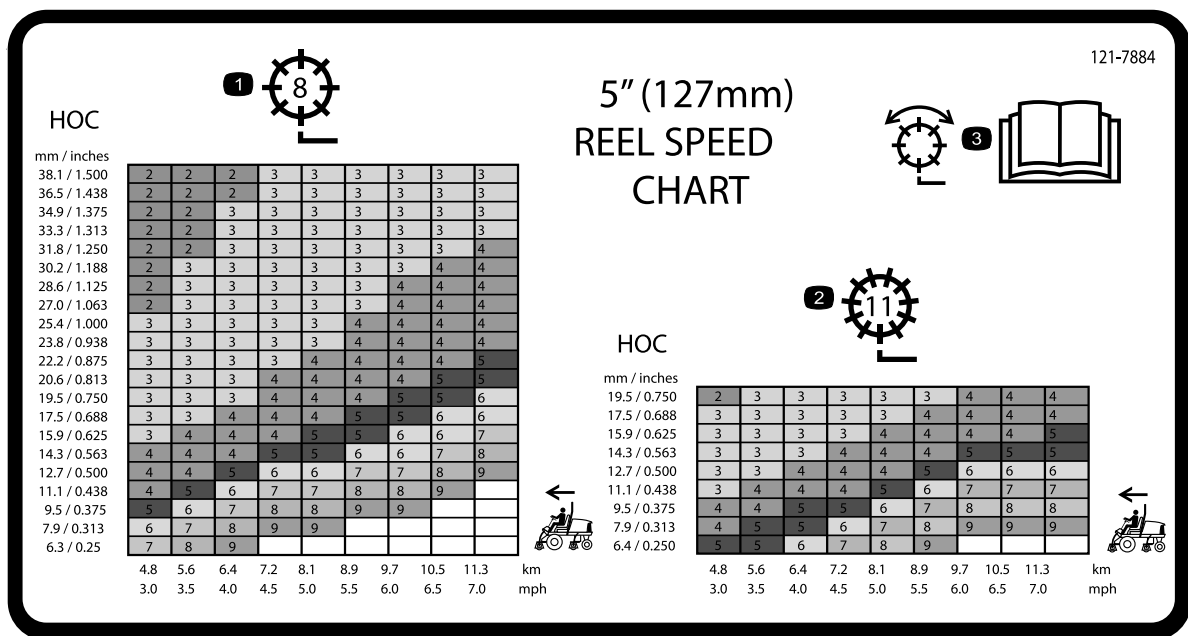
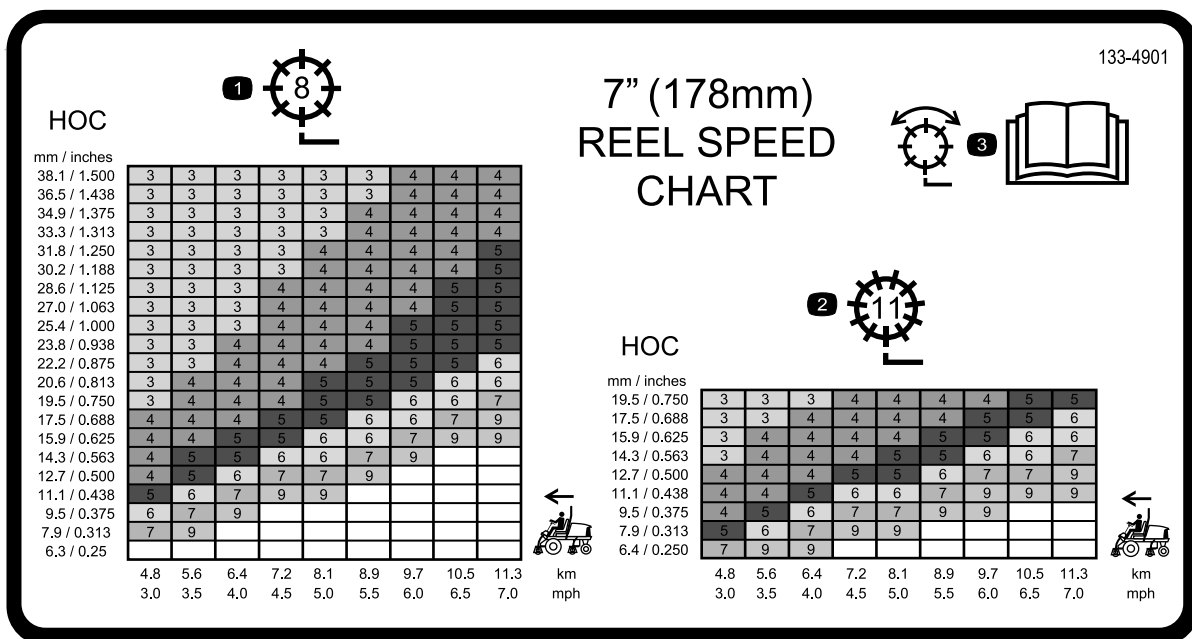

Figure 35
Figure 36
3. Use the graph on the reel speed chart decals (Figure 35 and Figure 36), to determine the proper reel speed setting.